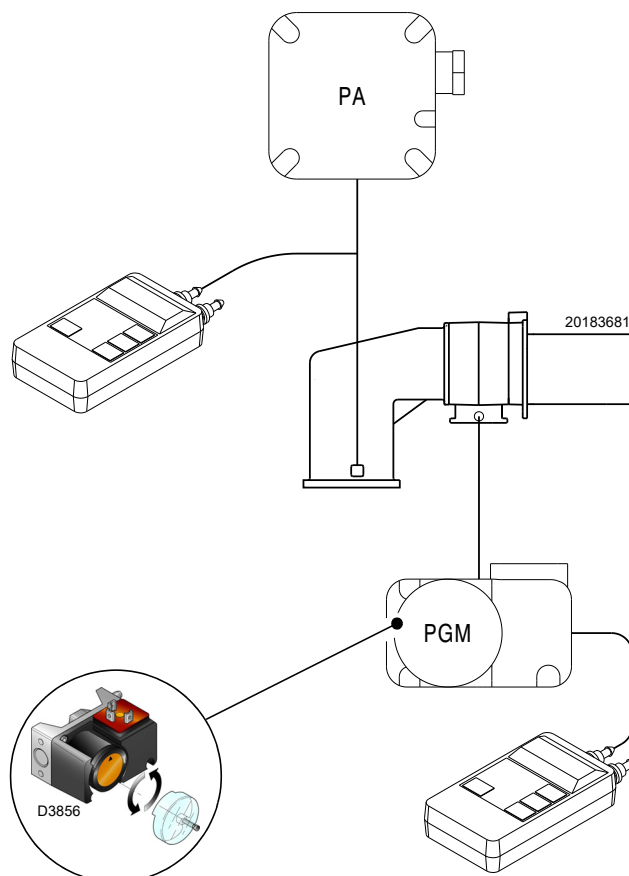

Fig. 50
- Adjust the maximum gas pressure switch (Fig. 50) to the end of the scale.
Adjust the maximum gas pressure switch (Fig. 50) after making all other burner adjustments with the maximum gas pressure switch set to the end of the scale.